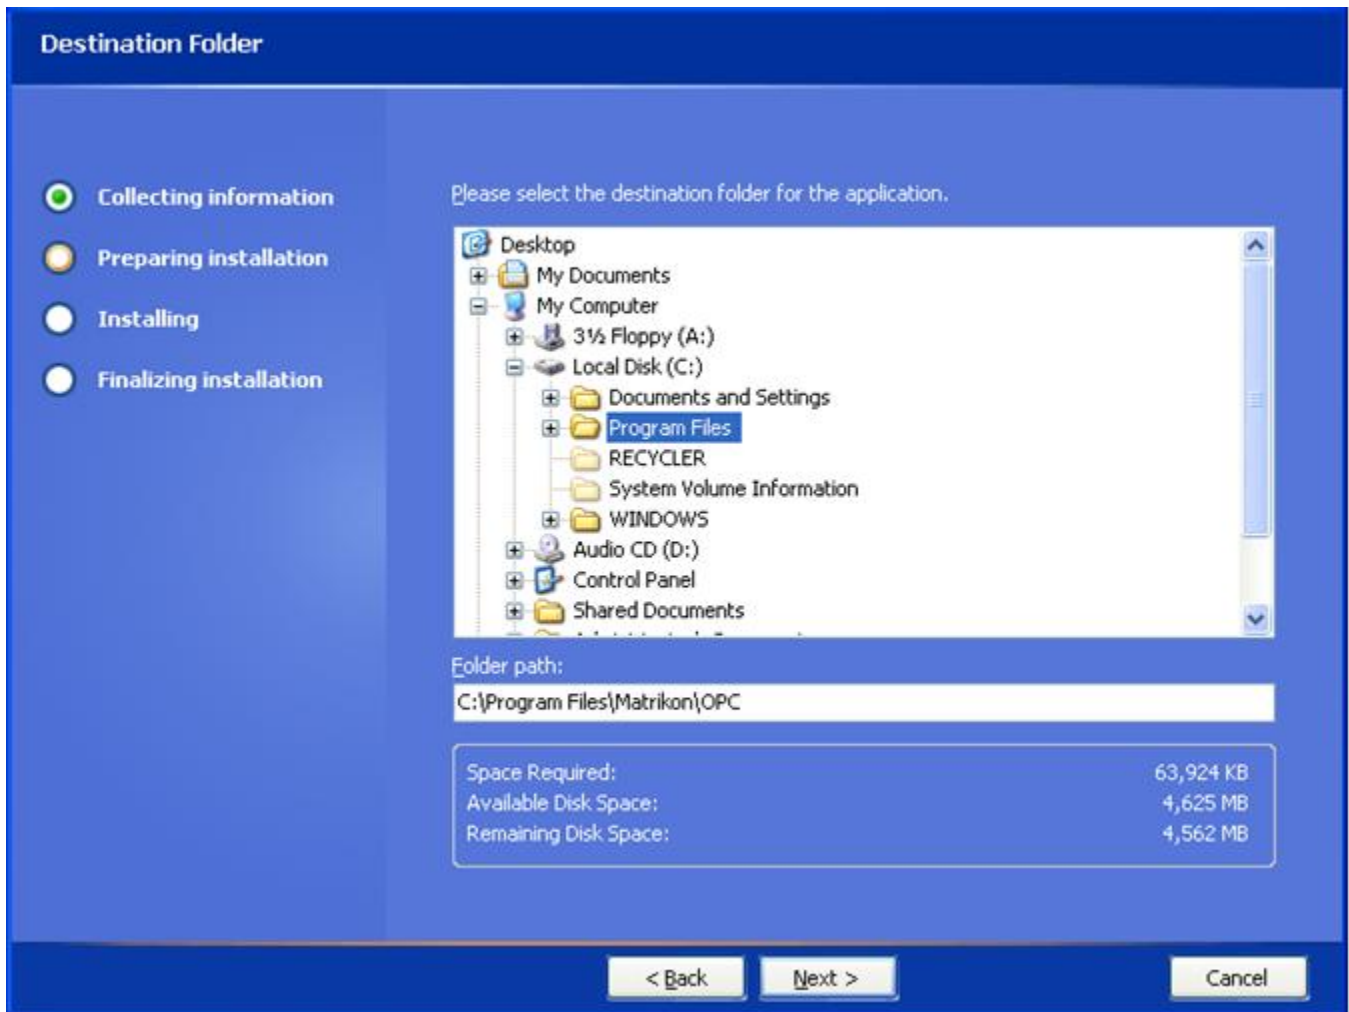

Figure 66 - Destination Folder Screen
10. Click on the **Next** button. The **Destination Folder** screen (Figure 66) appears.